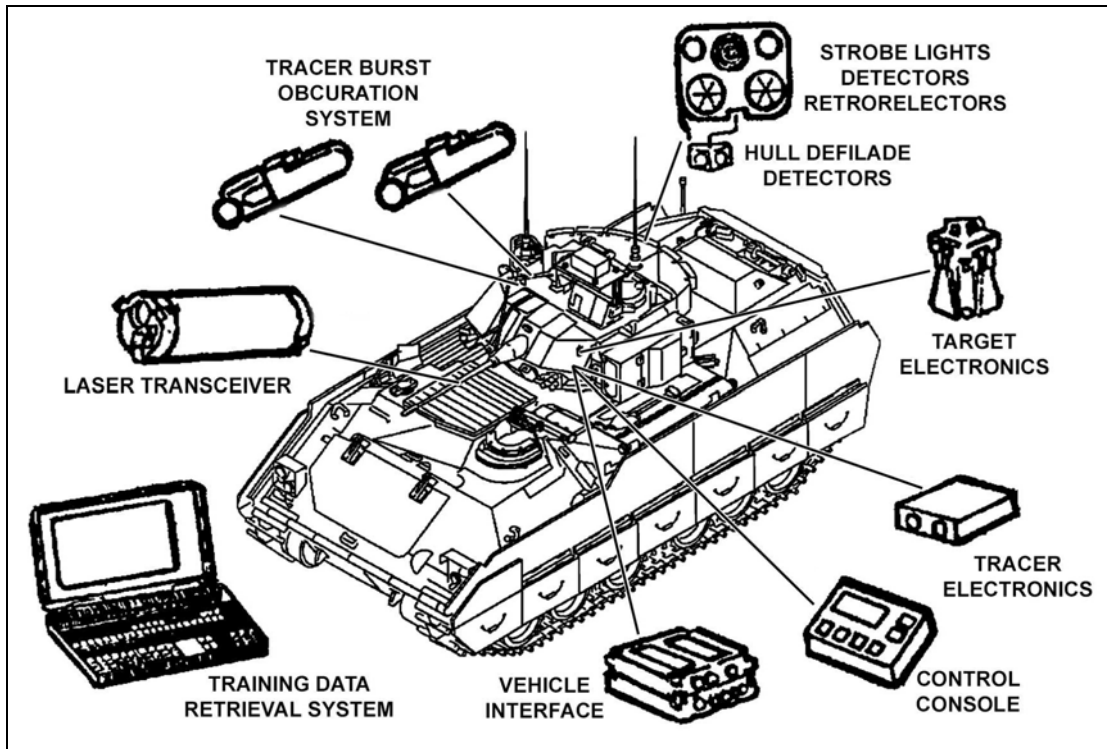

Figure 4-3. Precision gunnery system.
c. **Precision Gunnery System, ODS and below.** The PGS (Figure 4-3, page 4-7) is an eye-safe laser appended training device that provides normal and degraded mode gunnery on unit vehicles. The system allows crews to develop and sustain gunnery skills while training using their own vehicles. Tracer and missile signatures in the commander's and gunner's sights replicate the actual weapons and ammunition. This allows crews to apply lead, BOT, and TOT procedures during engagements. The PGS is fully compatible on MILES-equipped ranges, vehicles, and targets. The system can send and receive hit, kill, and miss signals from other PGSs, tank weapons gunnery simulation systems (TWGSSs), or MILES-equipped vehicles. A redesign of the mounting reconfiguration allows the crew to fire the TOW "in simulation" while they fire the 25-mm and coax "live." The PGS lets the BCEs review all engagements during the AAR. The PGS also shows ballistic information for each simulated round fired. It identifies where each hits relative to the target, in mils, both in azimuth and elevation. (TM 9-6920-710-12&P-1 and TM 9-6920-711-12&P-1 provide additional information.) The system components include—